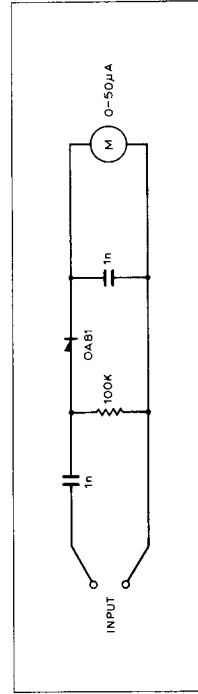

Fig. 4.2 Diode Probe
6. Set the d.c. output from Regulator Unit (8) to 9.5 V by adjustment of 8RV1.
7. All readings taken using standard meter leads except where 'Probe' is specified. Diagram of diode probe is shown at Fig. 4.2.